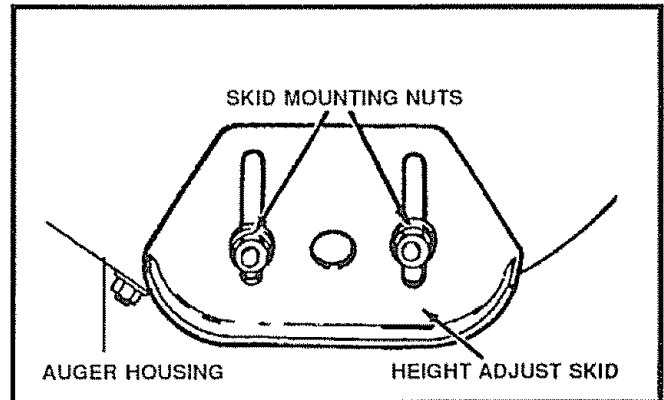

FIG. 20
This snow thrower is equipped with two height adjustment skids, located on the outside of the auger housing (See Fig. 20). These skids elevate the front of the snow thrower.
- Loosen the skid mounting nuts (See Fig. 20) and adjust the skids up to bring the front of the snow thrower down. Re-tighten the mounting nuts.